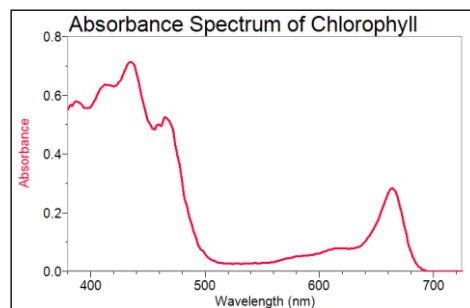

Figure 1
2. Compare the absorbance spectra of the three grades of olive oil with the sample in Figure 1. What evidence is there that regular and extra virgin olive oil contain chlorophyll while the light grade of olive oil does not?